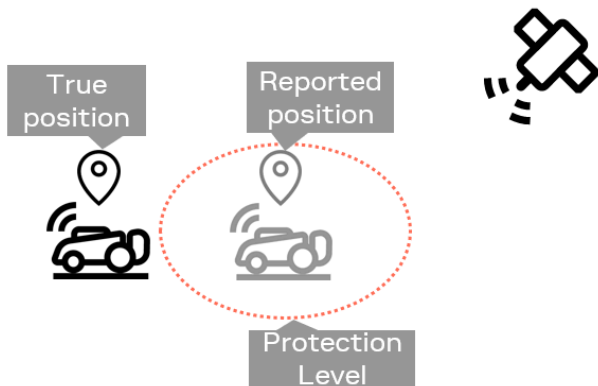

Figure 20: Misleading information
The protection level bounds the true position error with a target misleading information risk (TMIR), for example 5[%MI/epoch] (read: 5% probability of having an MI per epoch). The target misleading information risk describes the probability per epoch of having misleading information (MI), meaning that it is not possible to bound the true position error because it is larger than the protection level (see Figure 20).